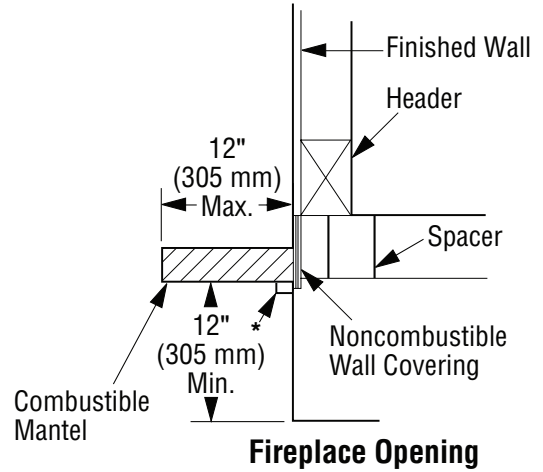

**Figure 8 - Hearth Extension**
Thermal conductivity "k" of materials can be obtained from manufacturer or supplier of noncombustible material. If hearth extension is to be covered, use noncombustible material such as tile, slate, brick, concrete, metal, glass, marble, stone, etc. Provide a means to prevent hearth extension from shifting and seal gap between fireplace frame and hearth extension with a noncombustible material (see Figure 8).
**⚠ WARNING: Hearth extension is to be installed only as shown in Figure 8.**